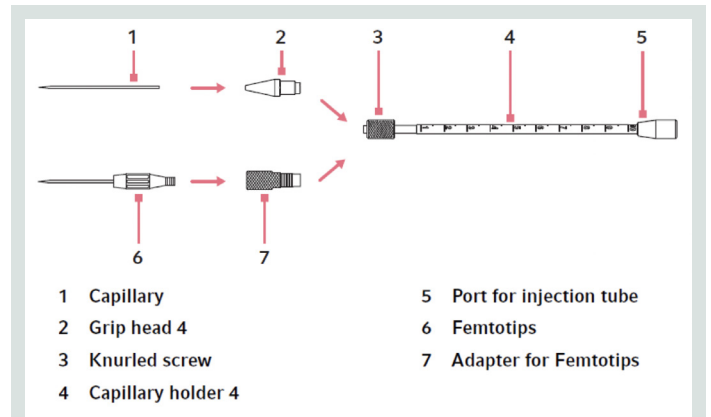

Figure 5: Assembly of the Grip head 4 and Femtotip® adapter onto the Capillary holder 4.
- D. Screw the Femtotips capillary snugly into the Femtotips adapter and screw it onto the front of the Capillary holder 4. Other type of microinjection capillaries can be mounted onto the Capillary holder 4 using the Grip head 4 (see Figure 5).